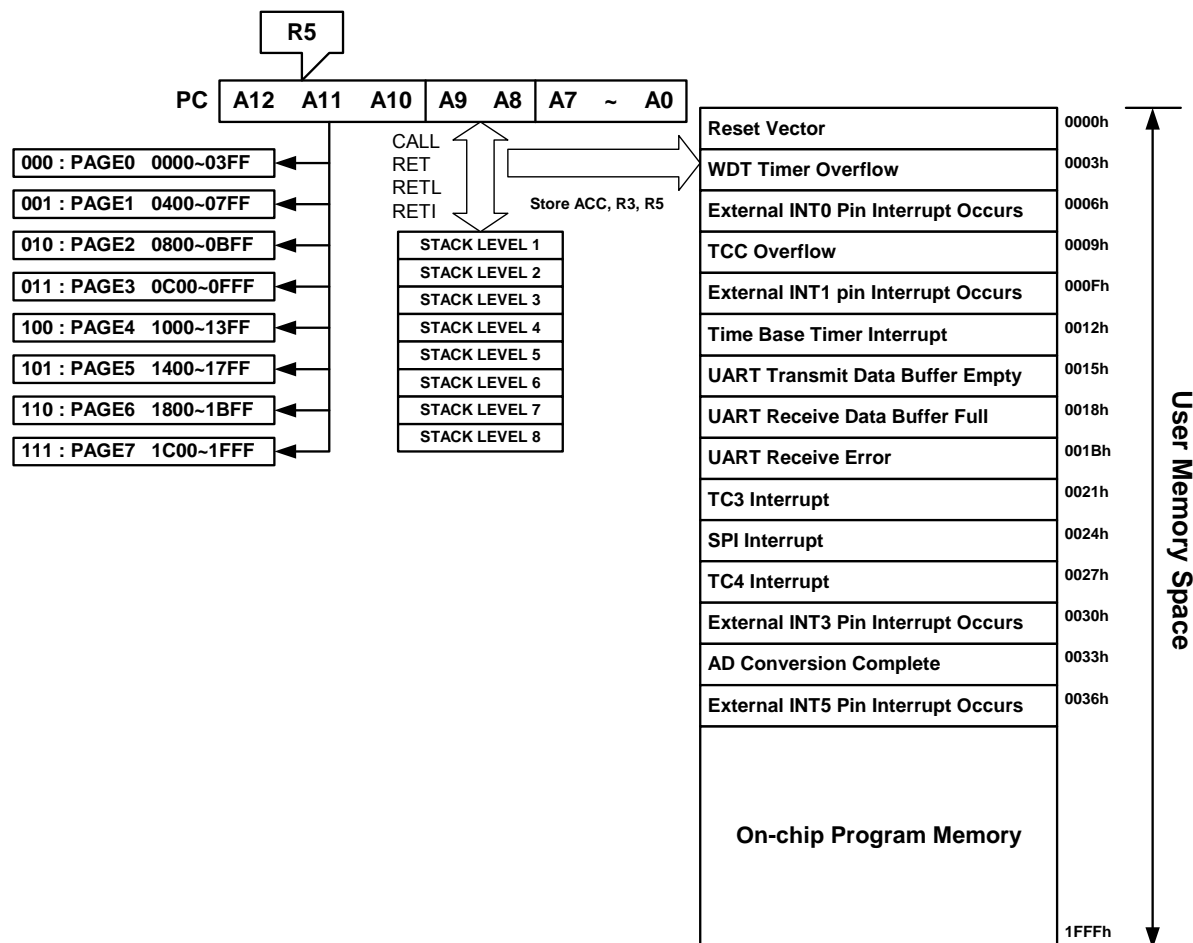

Fig. 4. Program Counter Organization
- ◇ Depending on the device type, R2 and hardware stack are 10-bit wide. The structure is depicted in Fig.4.